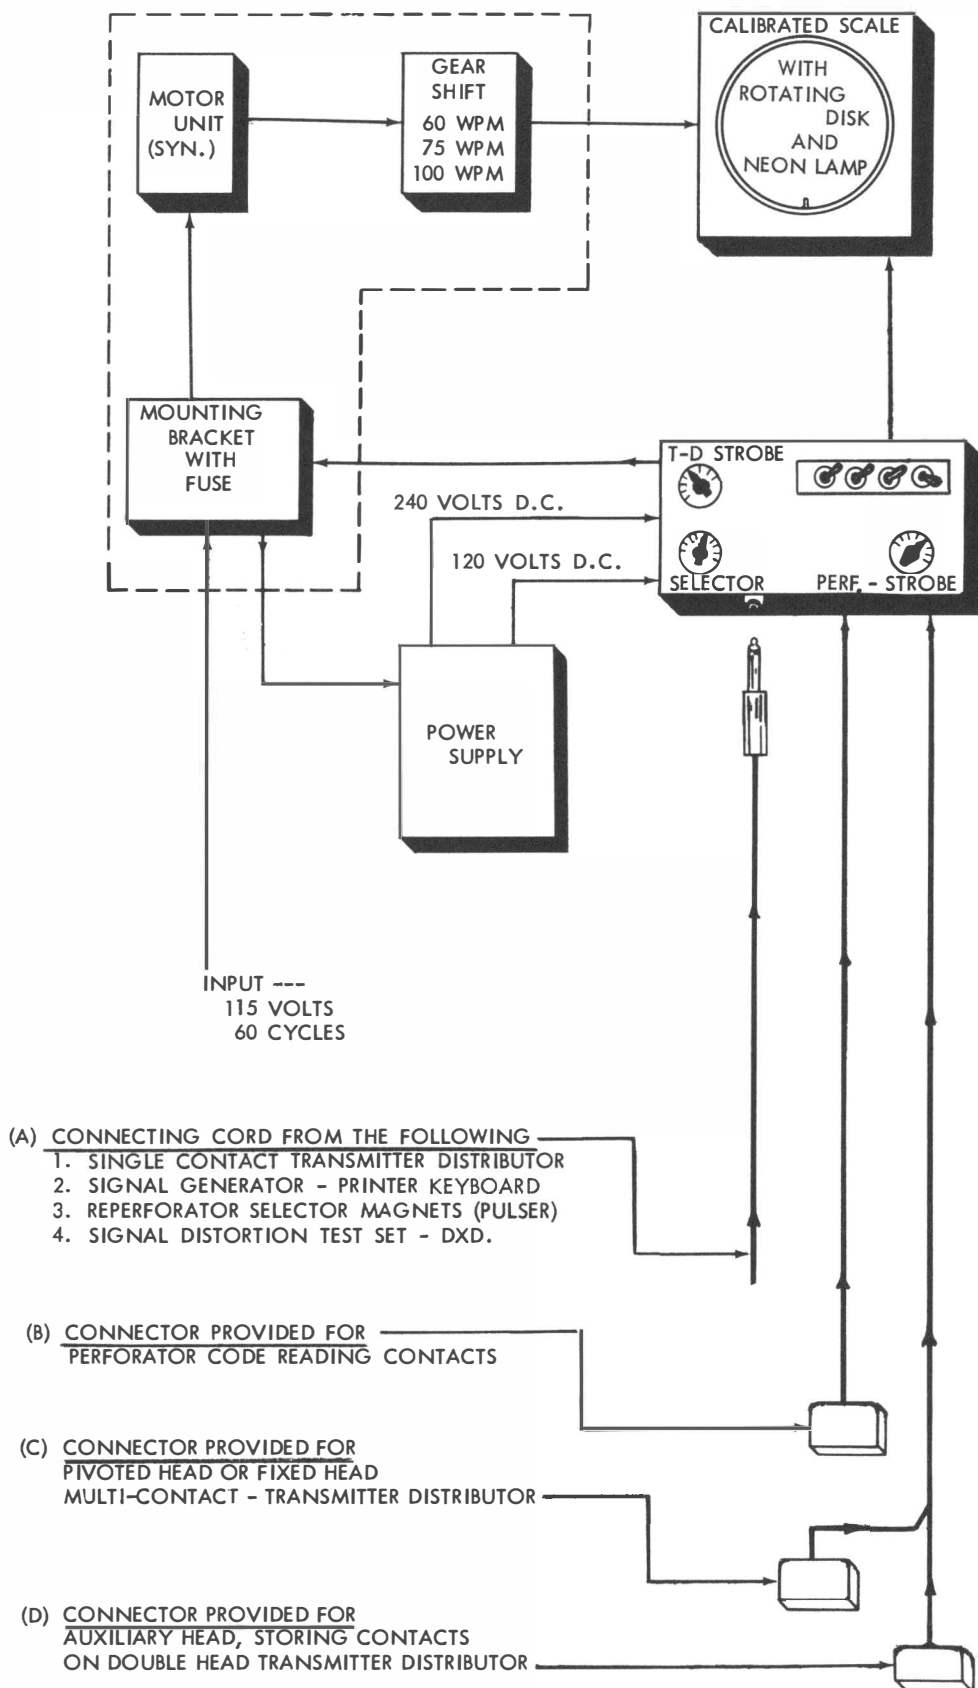

FIGURE 2-1 BLOCK DIAGRAM
a. **GENERAL.** In the following section, which relates to the principles of operation, reference is made to the simplified block diagram in figure 2-1, the schematic circuit diagram figure 5-7 and the actual wiring diagram figure 5-8. The function of the individual circuits and mechanical linkage figure 2-1 is described in the sequence of operation.